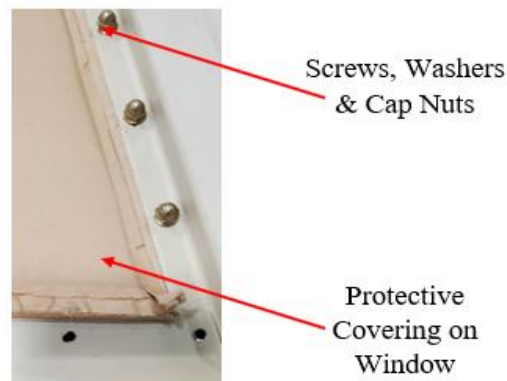

Figure 8: Screws, Washers, Capnuts, and Protective Covering
14. Replace screws, washers, and cap nuts. Remove protective covering/sticker on door window (Figure 8). Refer to step 12 in Section 8.1. for further fastening instructions.
13. Replace screws, washers, and cap nuts. Remove protective covering/sticker on door window (Figure 8). Refer to step 12 in Section 8.1. for further fastening instructions.
12. Replace screws, washers, and cap nuts. Remove protective covering/sticker on door window (Figure 8). Refer to step 12 in Section 8.1. further fastening instructions.